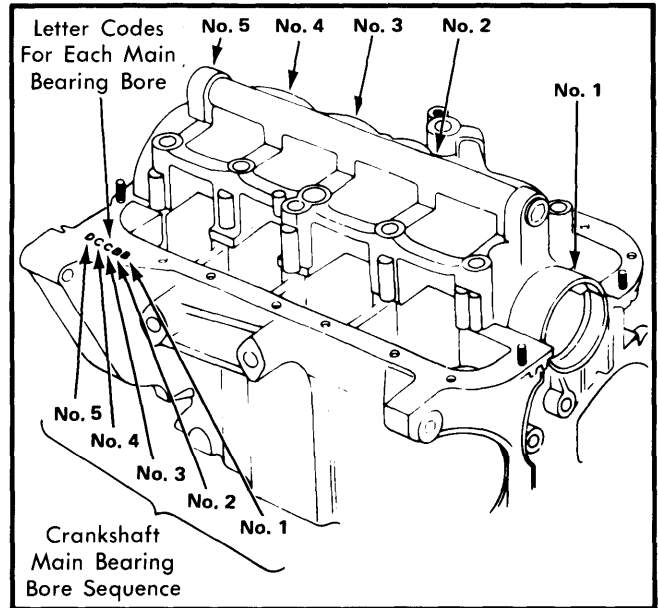

Fig. 8 Crankshaft Identification Locations (1335 cc Engine)
5) The 1751 cc engine has Roman numerals stamped on a pad at flywheel end of engine block indicating each crankshaft bore dimension. The 1487 cc engine has the letters "A", "B", "C", or "D" stamped on a pad at flywheel end of engine block, also indicating each crankshaft bore dimension. The 1335 cc engine block has letters stamped on pads near contact surfaces of block, indicating each main bearing bore dimension. See *Fig. 8*.